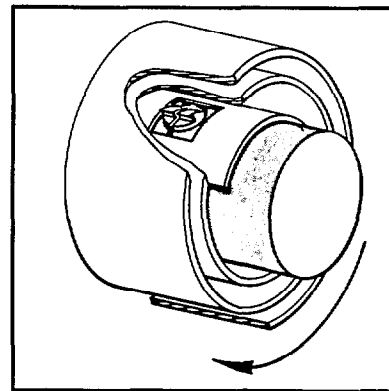

Fig. 5
- (c) Remove the spiral snap ring and the spring retainer. Note the direction the retainer is facing for proper reassembly (see figure 5).